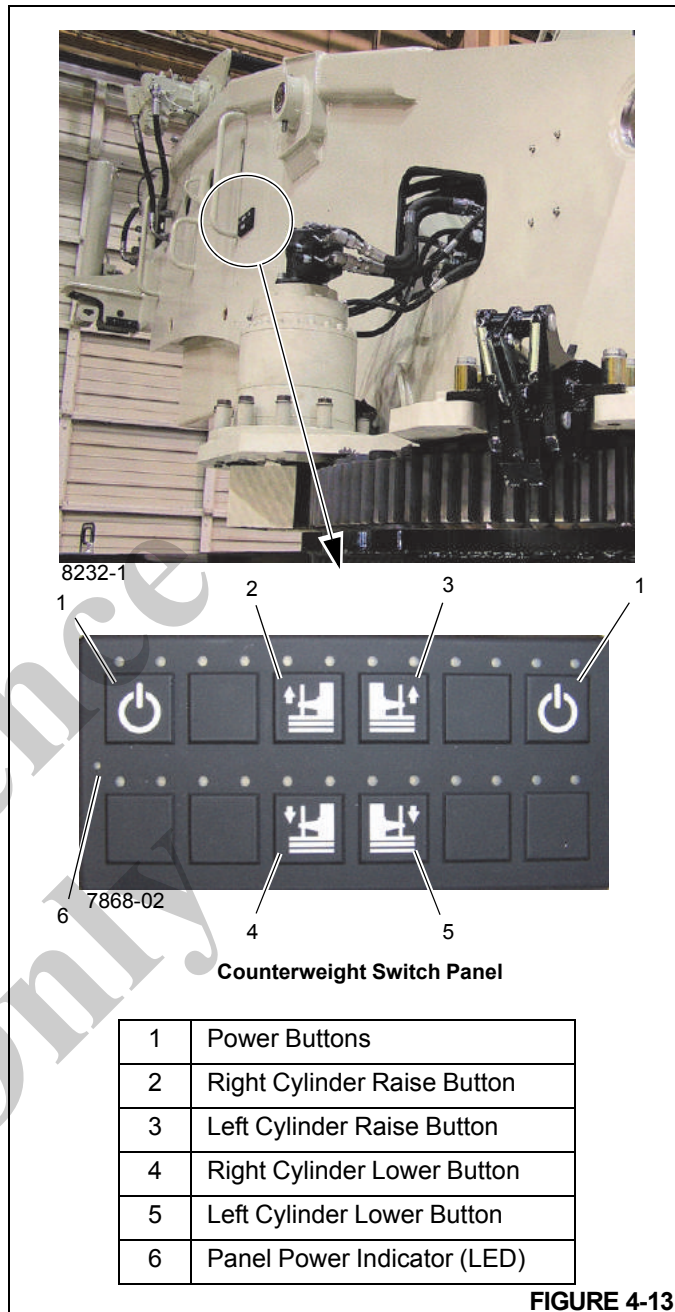

FIGURE 4-13
8. Using Counterweight Switch Panel (Figure 4-13) located on either side of turntable, lower the Counterweight Removal Cylinders by doing the following:
**NOTE:** The Counterweight Switch Panels will only function if the Crane Function Power Switch is turned off, an armrest is in the up position, or there is no one sitting in the crane cab operator's seat. A green LED (6, Figure 4-13) on the left side of the Counterweight Switch Panel will illuminate to indicate the panel is operational.
If a Counterweight Removal Cylinder Raise or Lower Button (4, 5, Figure 4-13) is pressed without first pressing and holding a Power Button (1, Figure 4-13), a red LED above that button will flash.
5. Using Counterweight Switch Panel (Figure 4-13) located on either side of the turntable, slightly raise the Counterweight Removal Cylinders by doing the following: